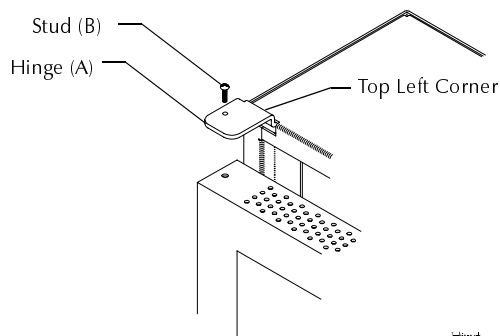
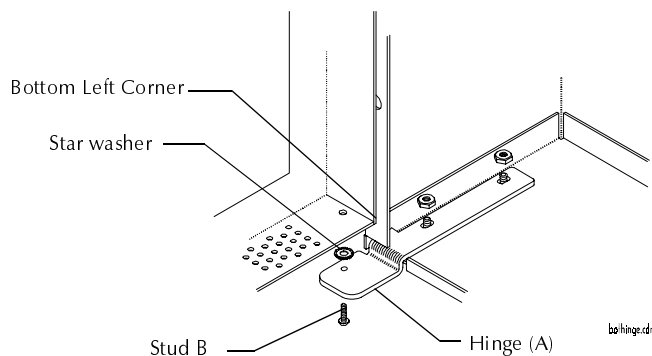

Figure 2-2 Installing a Top Hinge
Figure 2-3 Installing a Bottom Hinge
1	Insert the door hinges (A) into the top and bottom slots. (Figure 2-2 and Figure 2-3).
Installing a Top Hinge. Figure 2-2 shows how to mount a top hinge on a door:
Installing a Bottom Hinge. Figure 2-3 shows how to mount a bottom hinge on a door: